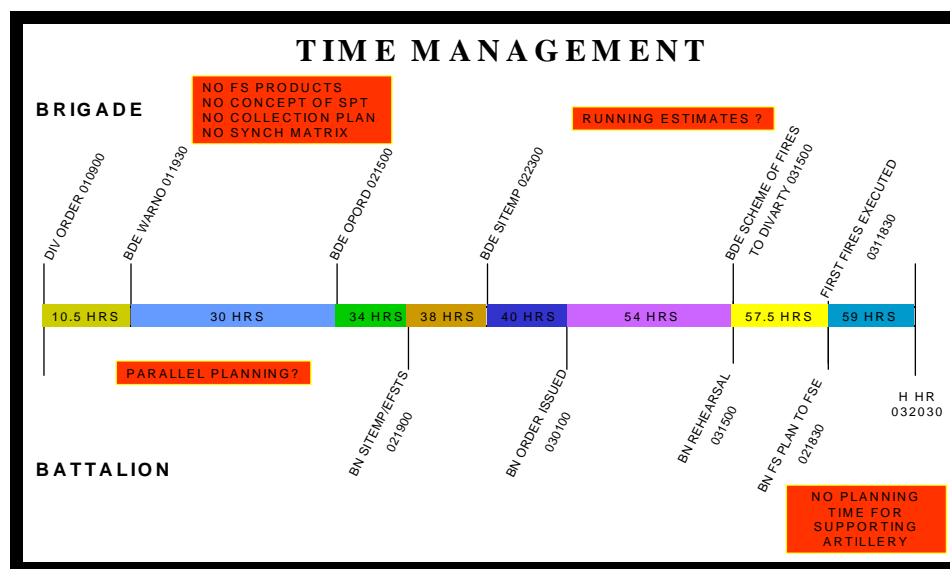

Figure 2. Time Management
**Success Tip #10:** At the brigade orders brief, send back a copy of the brigade order immediately so the staff can confirm mission taskings and continue the MDMP. This will save an additional three to four hours of planning time. As stated before, every hour counts (Figure 2).